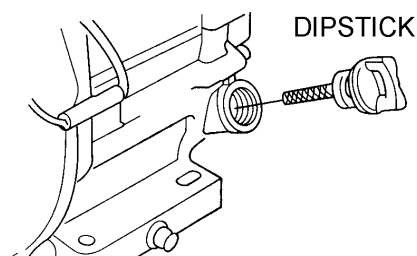

Figure 10. Engine Oil Dipstick Removal
2. Remove the filler dipstick from the engine oil filler hole (Figure 10) and wipe clean.